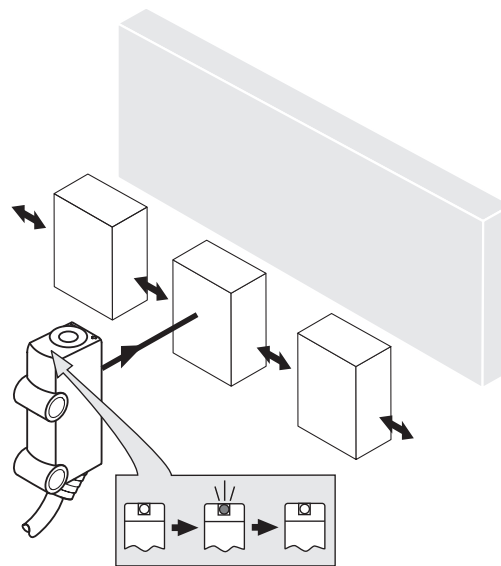

Figure 3: Standard direction
4. Note the preferred direction of the object relative to the sensor. see figure 3, page 11